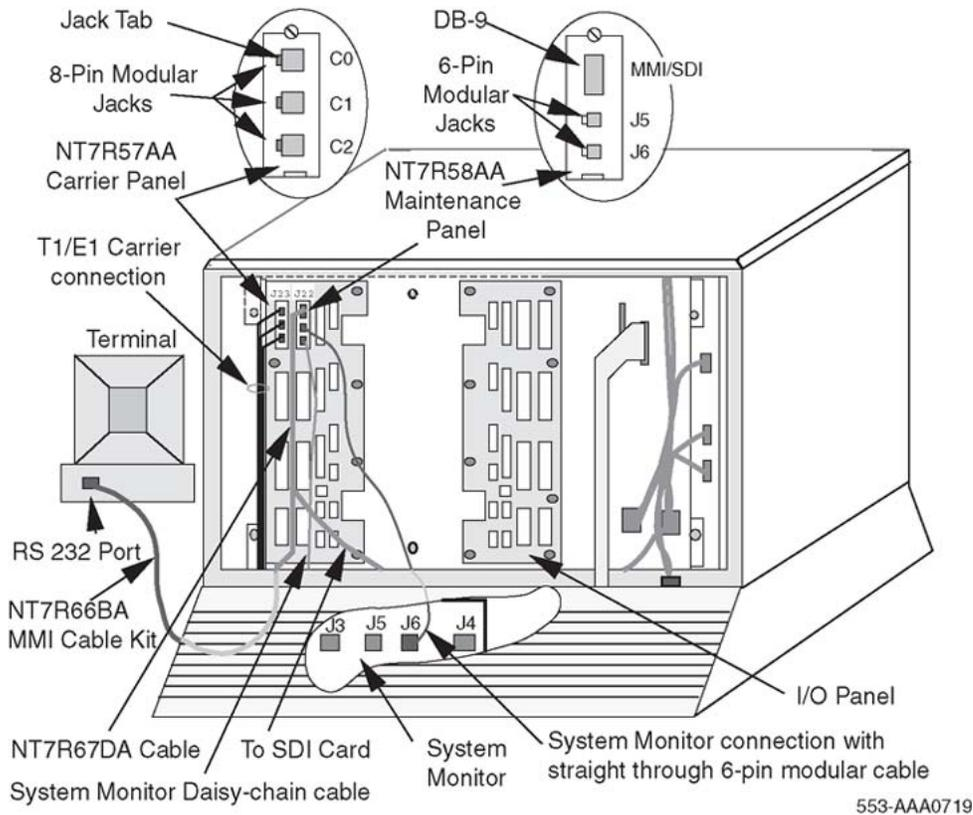
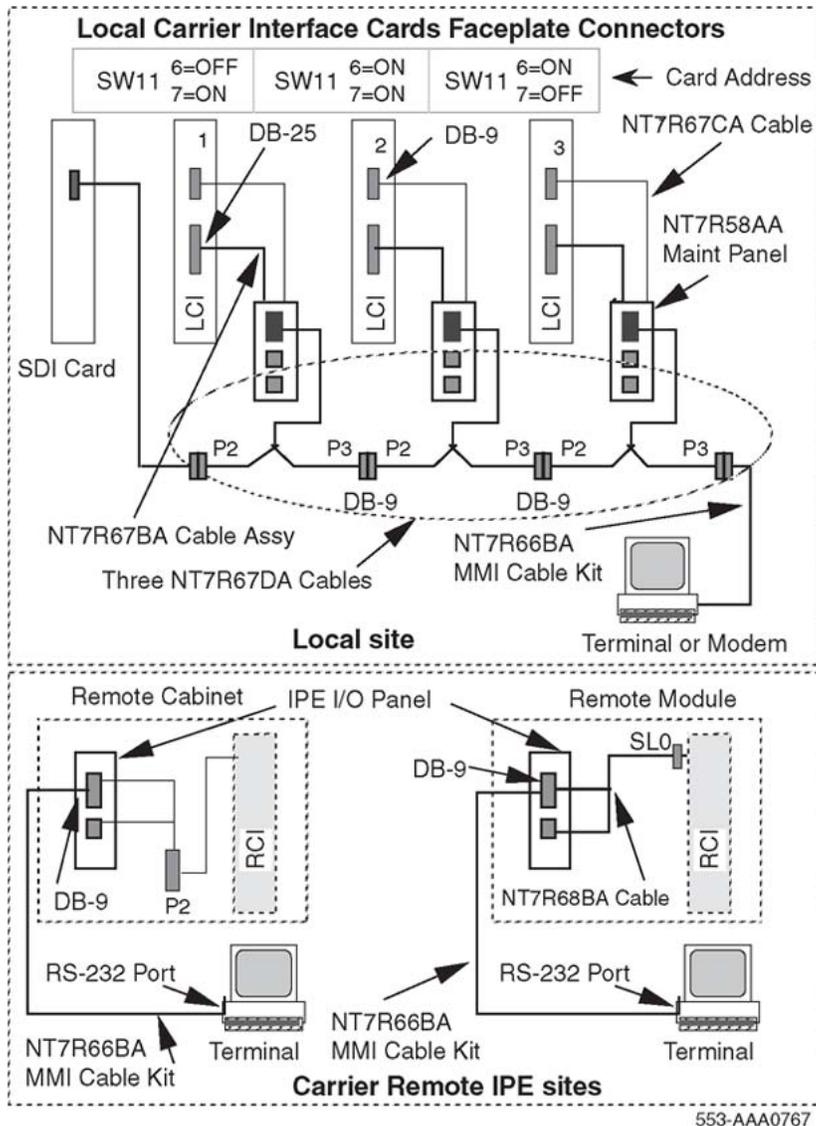

Figure 11: System monitor, local MMI terminal, and carrier links cable connections
Figure 12: Daisy-chaining multiple Local Carrier Interface cards
- Note 3:** SW11 switch positions 6 and 7 specify the connections of each NT7R51AA Local Carrier Interface card in a daisy-chain using the NT7R67DA External Maintenance cable. The P2 connector on this cable connects towards the host (SDI port) and the P3 connector connects toward the terminal in a daisy-chain configuration (Refer to Figure 11). When only one LCI is installed, the P2 connector connects to the SDI port and the P3 connector connects to the MMI terminal.
Refer to Figure 11: System monitor, local MMI terminal, and carrier links cable connections on page 68 for connector orientation.
For a single Local Carrier Interface card equipped in the local system, the P3 DB-9 male DCE connector on the NT7R67DA cable assembly is used to connect to the local MMI terminal. The P2 DB-9 female DTE connector is used to connect to an SDI port on an SDI card, which allows the MMI terminal to access the local system as a host. Refer to Figure 11: System monitor, local MMI terminal, and carrier links cable connections on page 68 and Figure 26: Single LCI connection diagram \(local site connections\) on page 177.
For multiple Local Carrier Interface cards, refer to Figure 12: Daisy-chaining multiple Local Carrier Interface cards on page 74 and Figure 27: Multiple LCIs connection diagram \(local site daisy-chain connection\) on page 178 that shows how to connect multiple Local Carrier Interface cards to multiple I/O panel assemblies to provide MMI and SDI connections for all Local Carrier Interface cards. To facilitate equipment maintenance, follow the same order as for the system monitor daisy-chain in descending order from the MMI terminal to the SDI port.
Figure 11: System monitor, local MMI terminal, and carrier links cable connections on page 68 shows the NT7R57AA Carrier Panel and NT7R58AA Maintenance Panel assemblies with the system monitor, the SDI/TTY, and the carrier connections. The NT7R58AA Maintenance panel assembly connector is used to connect the SDI port and the local MMI terminal. The NT7R57AA Carrier panel assembly is used to connect the three carriers.
1. To connect multiple NT7R51 Local Carrier Interface cards in a daisy-chain configuration and to the MMI terminal, connect the cables as shown in Figure 12: Daisy-chaining multiple Local Carrier Interface cards on page 74 and Figure 27: Multiple LCIs connection diagram \(local site daisy-chain connection\) on page 178:
Figure 12: Daisy-chaining multiple Local Carrier Interface cards on page 74 shows daisy-chaining of multiple Local Carrier Interface cards to allow sharing of an SDI port and a terminal or TTY.
The NT7R58AA Maintenance Panel assembly provides two 6-pin modular jacks to connect to the system monitor located in the pedestal and one DB-9 SDI/TTY connector. The 6-pin modular jack J5 is used to connect to the system monitor J6 jack in the pedestal, as shown in Figure 11: System monitor, local MMI terminal, and carrier links cable connections on page 68. The J6 jack on the NT7R58AA Maintenance Panel is used to connect to a slave system monitor daisy-chain as shown in Figure 12: Daisy-chaining multiple Local Carrier Interface cards on page 74.
To connect the system monitor cable from the NT7R58AA Maintenance Panel assembly to the system monitor in the same column, refer to Figure 11: System monitor, local MMI terminal, and carrier links cable connections on page 68 and Appendix C, Figure 30: Local site system monitor connection diagram \(single and multiple LCI configuration\) on page 181, and follow the steps in Connecting a single Local Carrier Interface card to the system monitor on page 75.